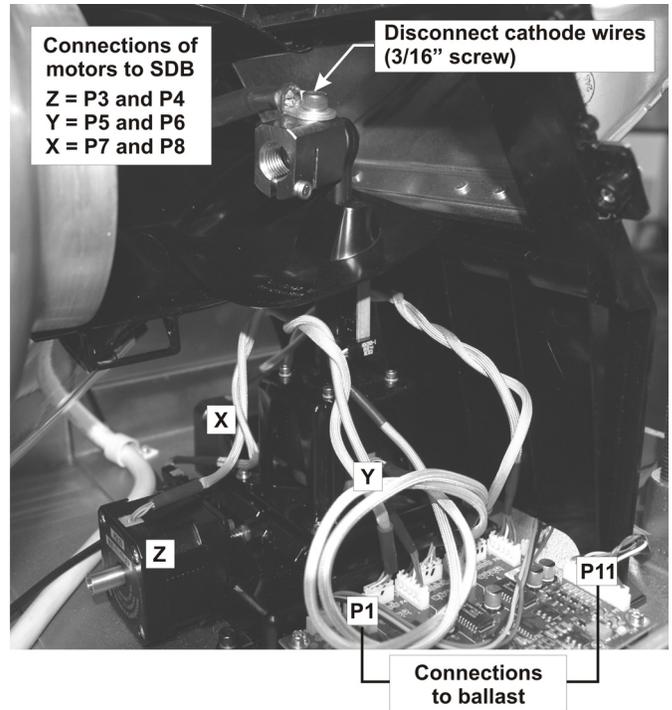

FIGURE 1-35 REMOVE LAMP ADJUSTER ASSEMBLY
4. Disconnect P11 and P1 from the Stepper Driver Board PCB. (Figure 1-35)